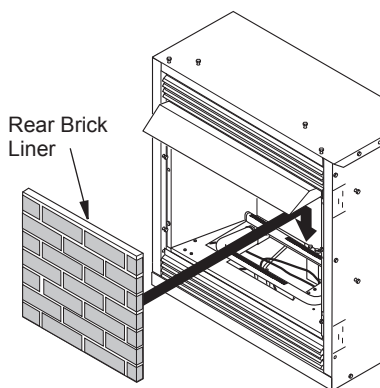

Figure 28 - Installing Rear Brick Liner
2. Place rear brick liner against back of firebox. The left and right brick liners will hold this liner in place (see Figure 28). Be sure to hold the rear brick liner while installing the sides so it will not fall forward.